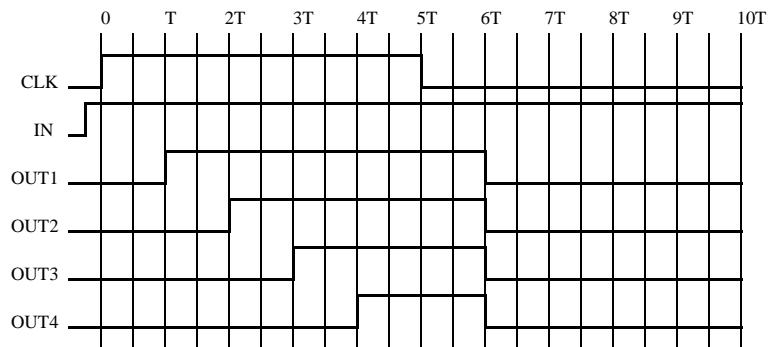

**Figure 6.17** Conventional DOMINO Dynamic Logic.
23. Consider a conventional 4-stage Domino logic circuit as shown in Figure 6.17 in which all precharge and evaluate devices are clocked using a common clock  $\phi$ . For this entire problem, assume that the pulldown network is simply a single NMOS device, so that each Domino stage consists of a dynamic inverter followed by a static inverter. Assume that the precharge